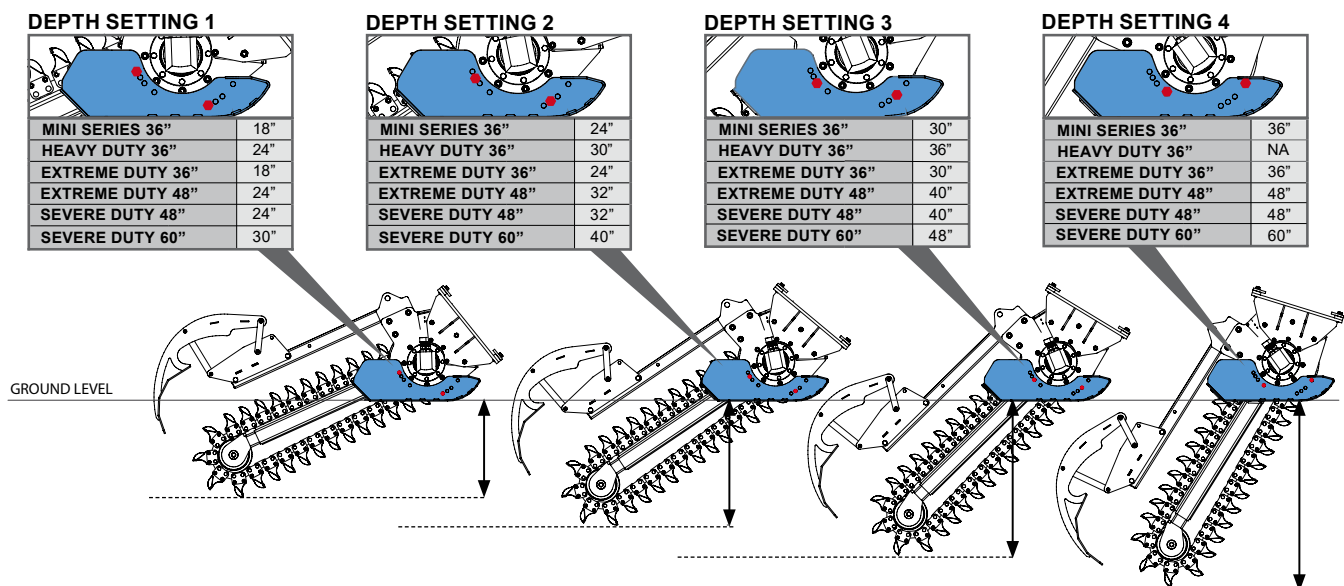

Figure 10
3. Reassemble the skid plate onto the side plate, making sure the star washers are in good condition and tighten the nuts [Figure 10].